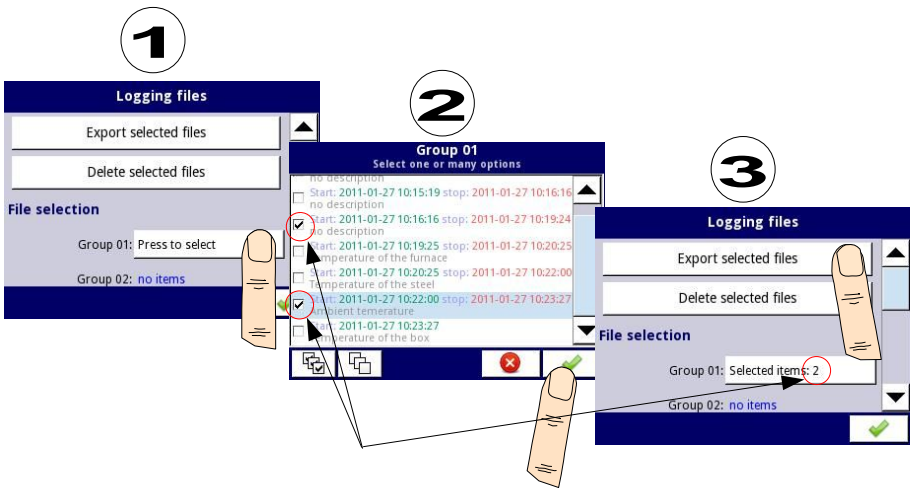

Fig. 7.20. Steps of exporting logged files to flash drive
An example of exporting 2 logged files from group 1 is shown in Fig. 7.20. First plug the flash drive into the device (when the device is equipped with one of the communication modules).
Deleting files from the device is similar to exporting logging files, the difference is that instead of pressing the **Export selected files** button in (3) step (see Fig. 7.20), press the **Delete** button.